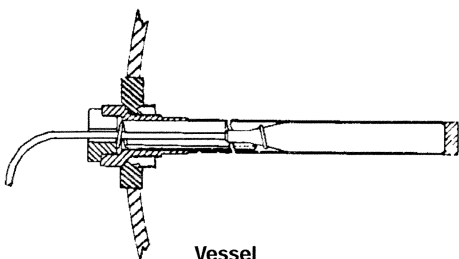

Figure 6 - Bulb casing installation
6. Insert thermostatic bulb and spring in bulb casing as shown in Figure 6. Assemble bulb casing nut to bulb casing and tighten in place.